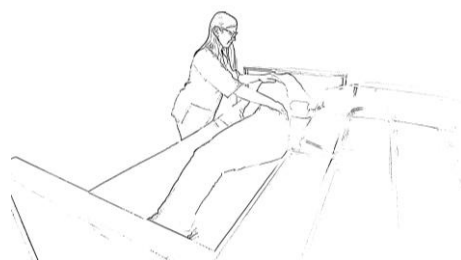

Fig. 1
8. The caregiver the patient is facing should hold the patient (see Figure 1).